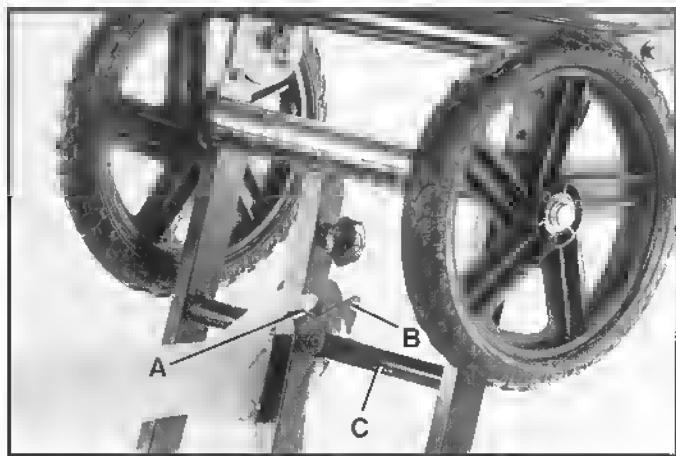

Fig. 46
1. Press down lever (A) Fig. 46, to disengage latch (B) from bar (C) as shown.